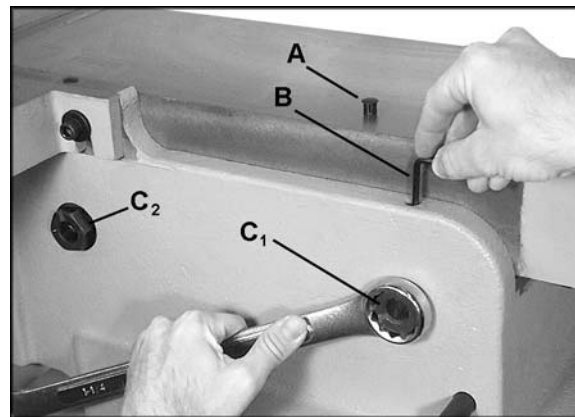

Figure 22
- Each table has four cam adjustment devices; two in front and two in back. (C, Figure 22 shows one of these).
- At the area of the table where the adjustment must be made, pry out the cap (A, Figure 22) from the hole.
- There are two set screws in the hole. Insert a 4mm hex wrench (B, Figure 22) into the hole and loosen the upper set screw by turning the hex wrench counterclockwise. Remove the upper set screw from the hole.
- Turn the hex nut (C₁, Figure 22) with a 1-1/4" wrench. **This adjustment is sensitive and should be made in small increments.**
NOTE: The rotation is different for left and right hex nuts; the right hex nut (C₁) being turned in Figure 22 will be turned clockwise to raise that area of the table, or counterclockwise to lower that area of the table. The left hex nut (C₂) shown in Figure 22 would be rotated in the opposite manner.
- When the adjustment is satisfactory, with the tables now coplanar, tighten the lower set screw with the hex wrench (B, Figure 22).
- Re-insert the cap (A, Figure 22) to keep dust and debris out of the hole.